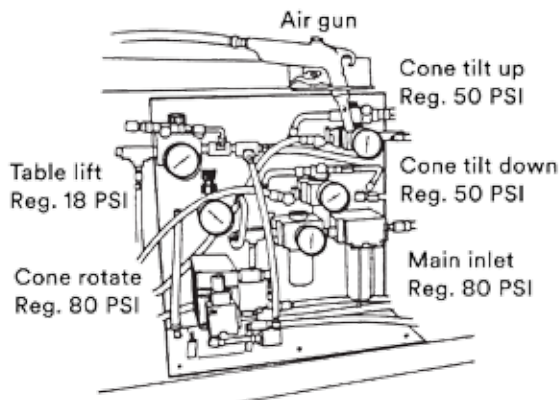

Figure 1
- With the air supply connected, check the settings on the 5 air regulators. Settings should be approximately as follows: (See Figure 1 for location of regulators).
14. Use the air gun provided (See Figure 1) to periodically clean off the surface of the carpet and to fluff the nap.